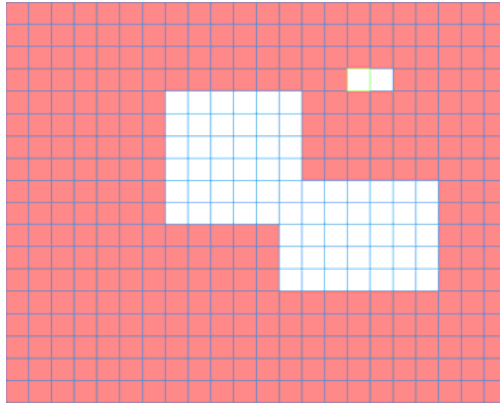

Figure 6-57
- Region: Click select button, the interface is shown as in Figure 6-57. Here you can set motion detection zone. There are 396(PAL)/330(NTSC) small zones. The green zone is current cursor position. Grey zone is the motion detection zone. Black zone is the disarmed zone. You can click Fn button to switch between the arm mode and disarm mode. In arm mode, you can click the direction buttons to move the green rectangle to set the motion detection zone. After you completed the setup, please click ENTER button to exit current setup. Do remember click save button to save current setup. If you click ESC button to exit the region setup interface system will not save your zone setup.
In Figure 6-57, you can left click mouse and then drag it to set a region for motion detection. Click Fn to switch between arm/withdraw motion detection. After setting, click enter button to exit.